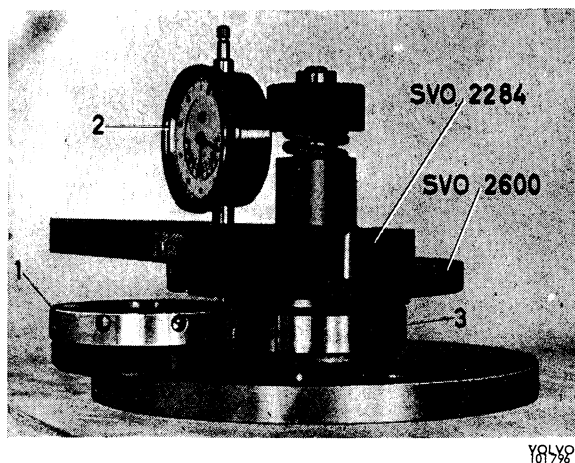

Fig. 4-151. Determining shim thickness
3. Place the complete rear pinion bearing with the outer ring in measuring fixture SVO 2600. Put on the plate, spring and nut. Turn the nut with the flat side facing upwards. The plate, and thereby the bearing, is turned forwards and backwards several times so that the rollers take up the correct position. Place the adjusting ring in the measuring fixture as shown in Fig. 4-151. Use retainer SVO 2284 and dial indicator and place the measuring point of the indicator opposite the adjusting ring and zero-set the indicator. Then set the pointer of the indicator to the outer ring of the bearing. The dial indicator now shows at once the thickness the shims should have. Measure shims for the correct thickness with a micrometer, see Fig. 4-152. N.B. It is almost impossible to obtain a shim with exactly the correct thickness. However, they must not be 0.03 mm (0.0012") thicker than the measured value, but up to 0.05 mm (0.002") thinner.